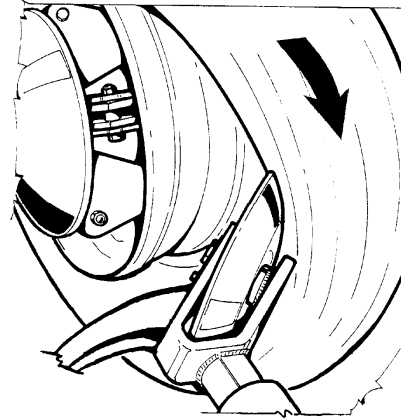

Fig.32
5. Demount the inner bead with the bead breaker disc, as described in @5.2.7. (Fig.32).